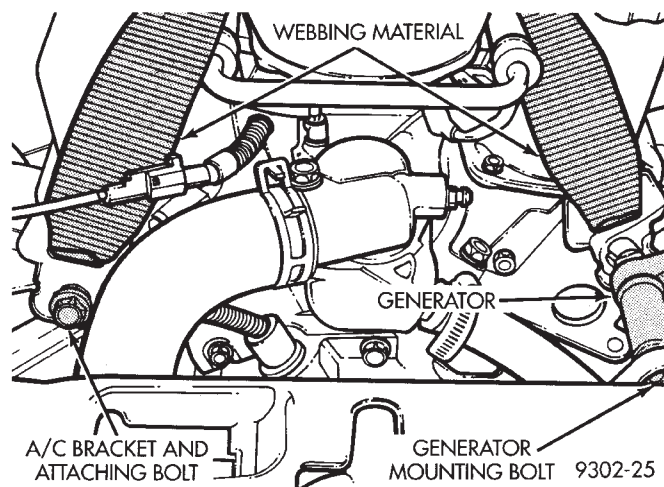

Fig. 40 Front Engine Support Attaching Locations
(2) Remove bolt attaching A/C compressor bracket to front of engine. Install webbing material hook on A/C compressor bolt, install bolt and tighten (Fig. 40).
(3) Loosen but do not remove generator to engine mounting bolt, remove spacer between generator and engine. Install webbing material hook between generator and engine, re-install and tighten original bolt (Fig. 40).
(4) Remove electronic ignition coil, mounting bracket bolt from rear of engine. Install webbing material hook on bracket bolt and re-install and